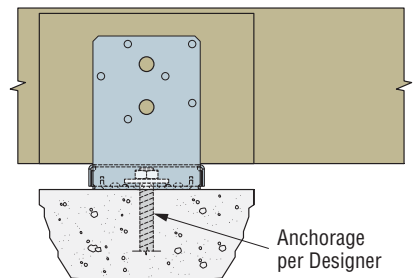

Figure 4 — ABU with Beam Installation
- For applications involving the use of a post base to support a wood beam, refer to engineering letter L-C-ABUBEAM at [strongtie.com](http://strongtie.com). (Figure 4)